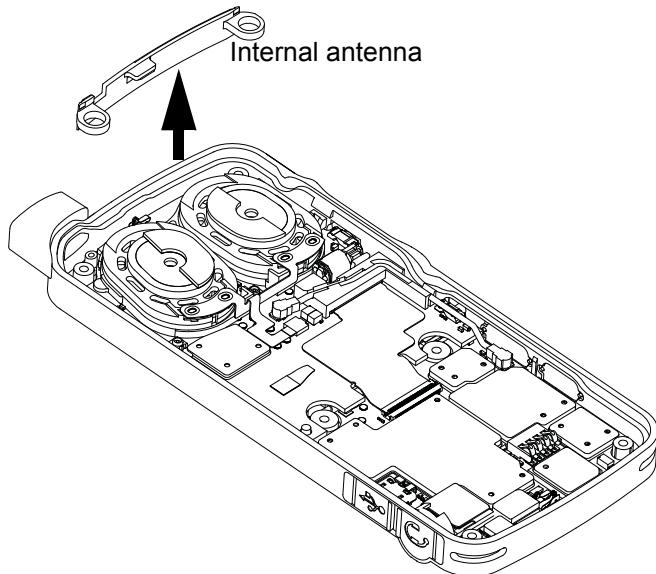

Figure 5-9. Internal antenna removal
1. Remove the internal antenna upwards by using tweezers as shown in Figure 5-9.